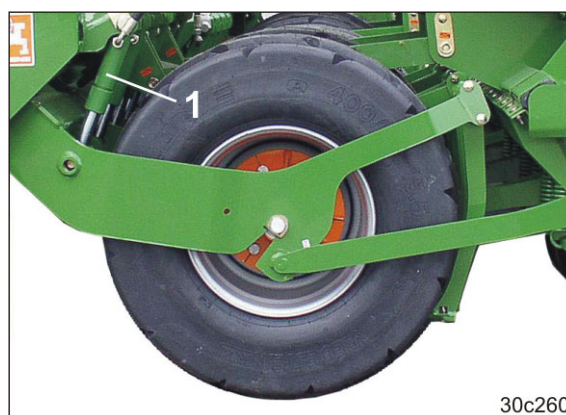

Fig. 78
- is supported by way of two hydraulic cylinders (Fig. 78/1) on the supporting frame